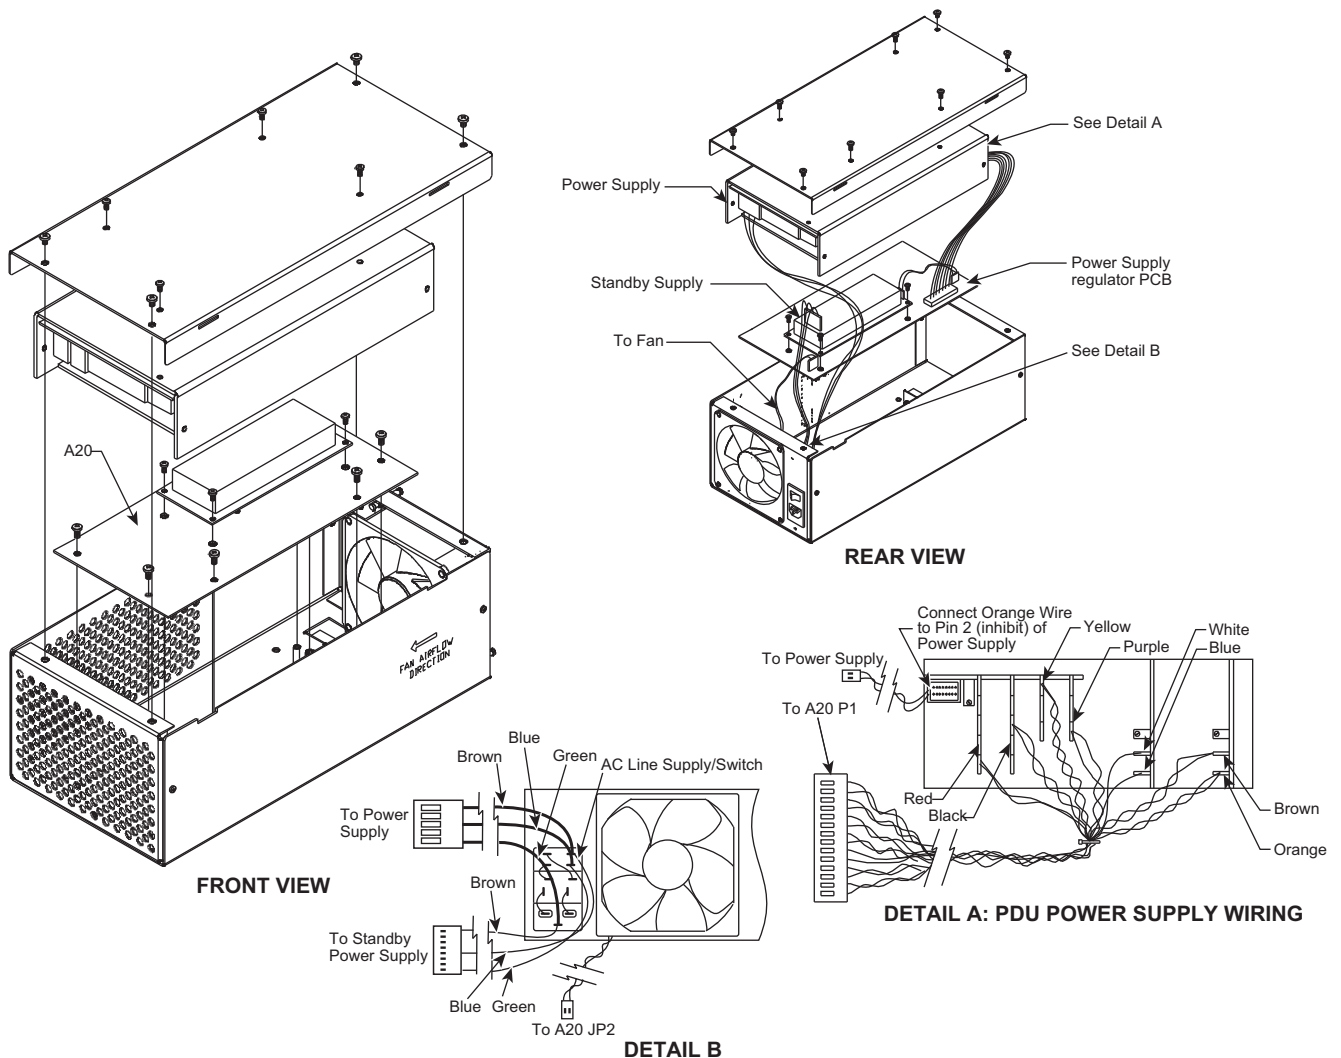

Figure 7-14. Power Supply Assembly
4. Use a Phillips screw driver to remove the screws that secure the top subassembly (cover and PDU power supply unit) of the power supply assembly. See Figure 7-14.
5. Carefully lift the top subassembly off the power supply assembly. Hold the top subassembly securely. Disconnect the power input cable at connector J1 located to the rear of the PDU power supply unit. See Figure 7-14.